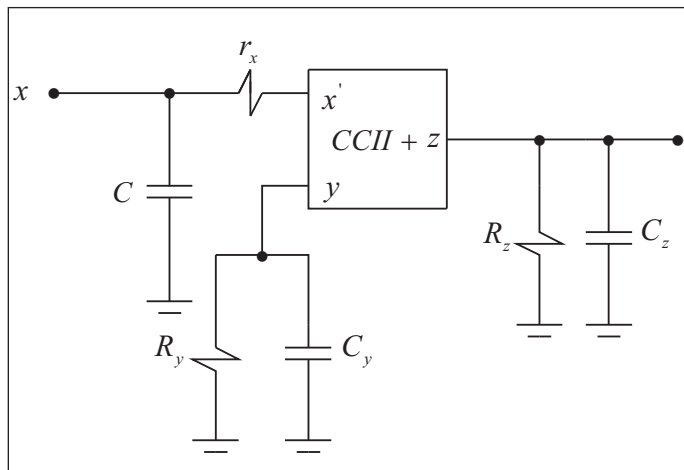
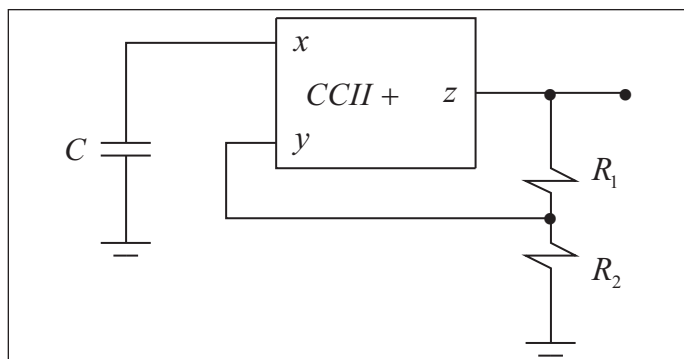

Figure 1: Simplified model for the AD844
Figure 2: CCII-based square wave generator
Figure 1 shows a simplified model for the second-generation plus-type current-conveyor (CCII+). This circuit can also be used for modelling the current-feedback operational-amplifier (CFOA) formed of a CCII+ followed by a voltage-follower.
On the other hand, the current-conveyor based Schmitt-trigger circuit shown in **Figure 2** is widely used as a square wave generator. In the analysis of this circuit, it is usually assumed that the current conveyor non-idealities are represented by the parasitic capacitance C_x and the parasitic resistance R_x associated with terminal x . Usually, the parasitic resistance R_y and the parasitic capacitance C_y associated with terminal y are ignored.
No attempt has been reported for studying the performance of the circuit of Figure 2 if the effect of the parasitic at terminal y is taken into consideration. It is, therefore, the major intention of this paper to investigate the performance of this circuit using the model shown in Figure 1.
Using the CCII+ simplified model of Figure 1, routine analysis yields the characteristic equation of the circuit of Figure 2 that can be expressed as **Equation 1**:
where $C_T = C + C_x$ and C are the externally connected capacitance. Therefore, by equating the real and imaginary parts of Equation (1) to zero, i.e. using the Barkhausen criterion, the frequency and condition of oscillation of the circuit of Figure 2 can be expressed as